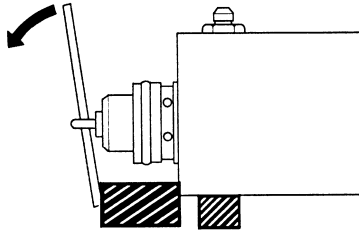

Figure 14. Removing the piston.
- b. It may be useful to use a pry bar as a lever as shown in Figure 14. Be careful to not damage the piston.